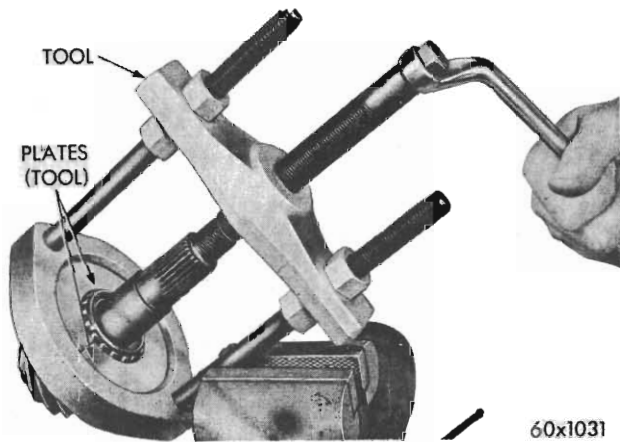

Fig. 22 - Removing pinion rear bearing using Tool E1673.
(23) Remove pinion rear bearing with puller Tool E1673 bearing remover (see Fig. 22).